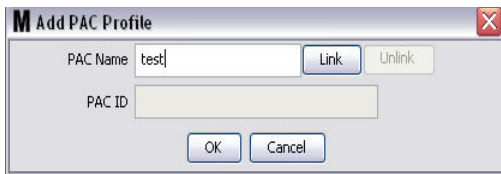

FIG. 129
3. The Add PAC Profile screen is shown in FIG. 129. On this screen you are prompted to name the PAC. After you type the name of the PAC in the field, click OK to close the screen and save the changes.